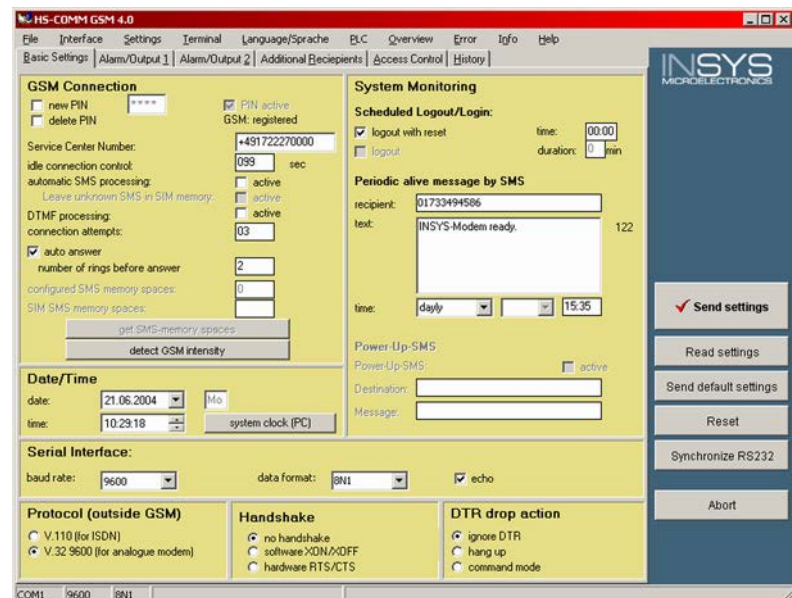

Fig. 224: GSM modem - basic settings
- ➔ Set up the modem as shown in (Fig. 224) on the “Basic Settings” tab.